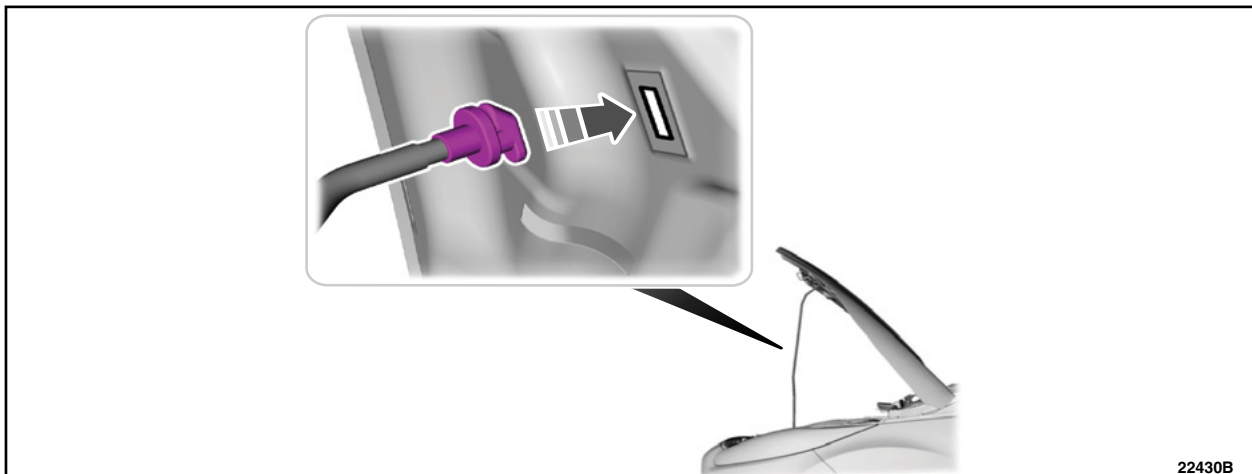

FIGURE 2
5. If equipped, support the hood with the prop rod. See Figure 2.